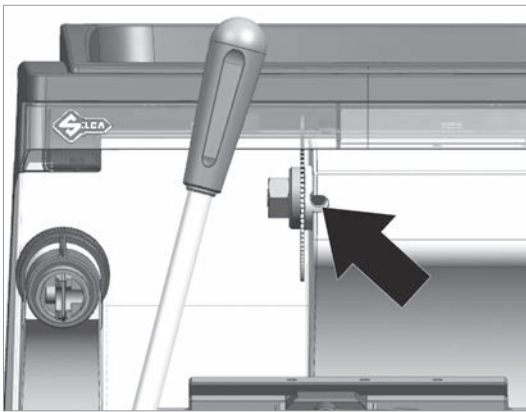
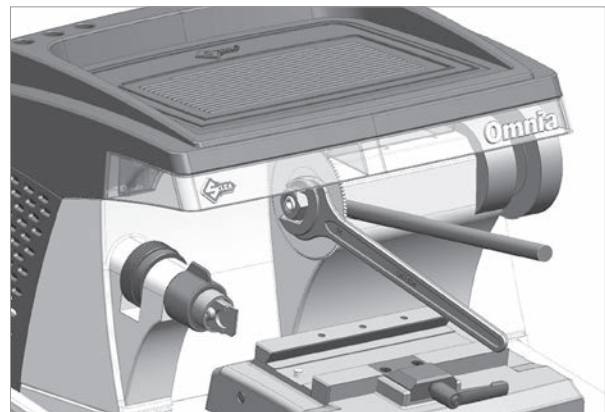

Fig.60
Fig.61
- 2) Slot the locking rod (provided) into the hole of the cutter shaft (Fig.60 and Fig.61).
- 2) Slot the locking rod (provided) into the hole of the cutting tool shaft (Fig.60).